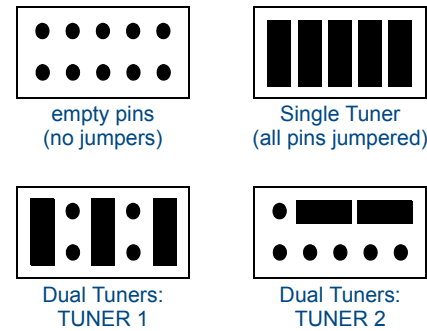

FIG. 7 Tuner Module Jumper Configuration
- Note that there are two rows of 5 pins as shown in FIG. 7.